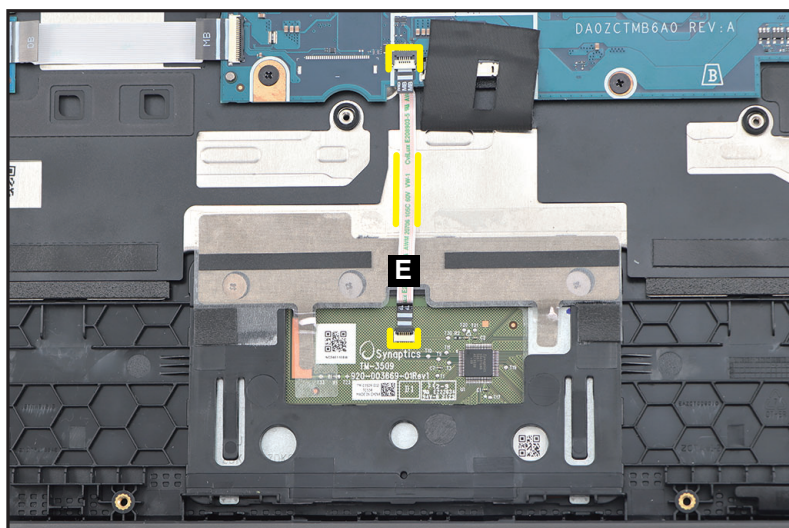

Figure 1-14. Touchpad Module Removal
4. Disconnect the touchpad FFC (E) from the touchpad module and mainboard connectors. Then carefully detach the touchpad FFC from its underneath adhesive (highlighted with the yellow lines) (Figure 1-14). Remove the touchpad FFC.